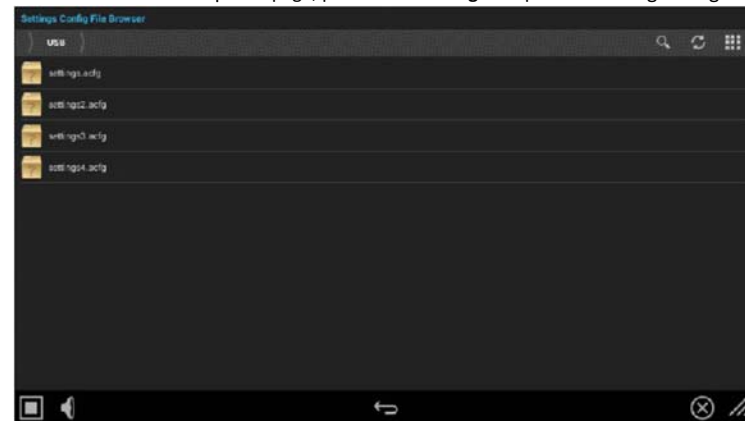

FIG. 114 Setting Config File Browser window
4. In the Reset and Update page, press **Load Settings** to open the Setting Config File Browser window (FIG. 114):